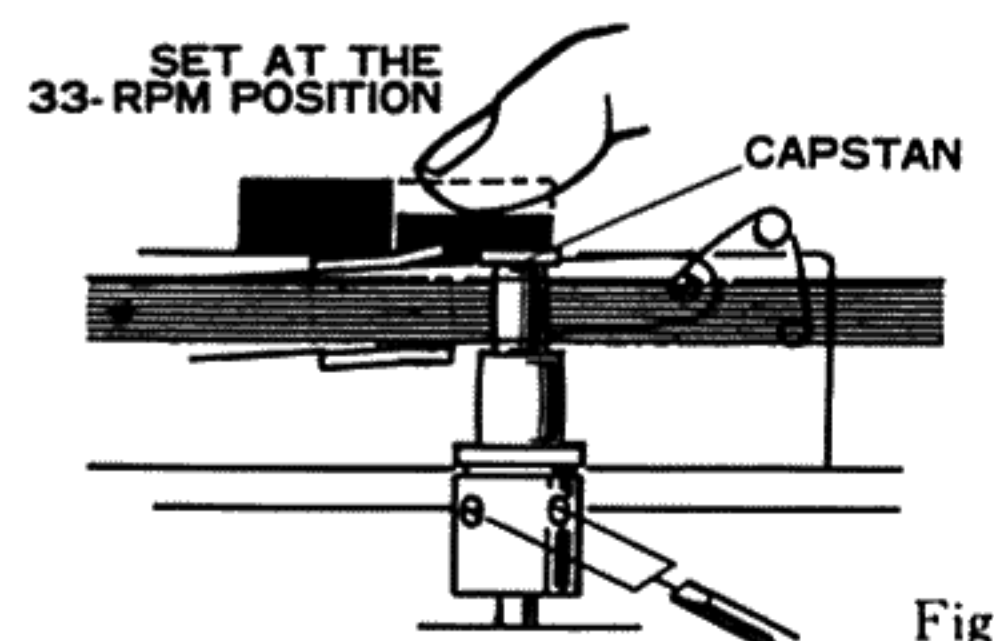

Fig. 3
- Loosen the two setscrews on the side of the capstan with the small screwdriver furnished in the accessory group, and remove them. (Fig. 3)